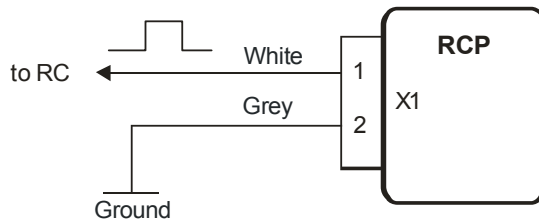
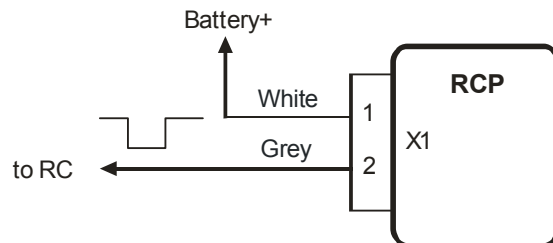

Figure 5
Figure 6
- The fig.5 presents the scheme to turn the heater off by the impulse of positive polarity. The fig.6 presents the scheme to turn the heater on by the impulse of negative polarity.